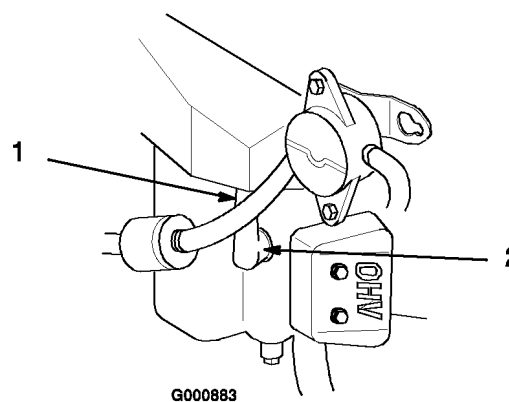

Figure 31
- Pull the wire(s) off of the spark plug(s) (Figure 31). Clean around the spark plug(s) to prevent dirt from falling into the engine and potentially causing damage.
3. Push the wire(s) onto the spark plug(s) (Figure 31).